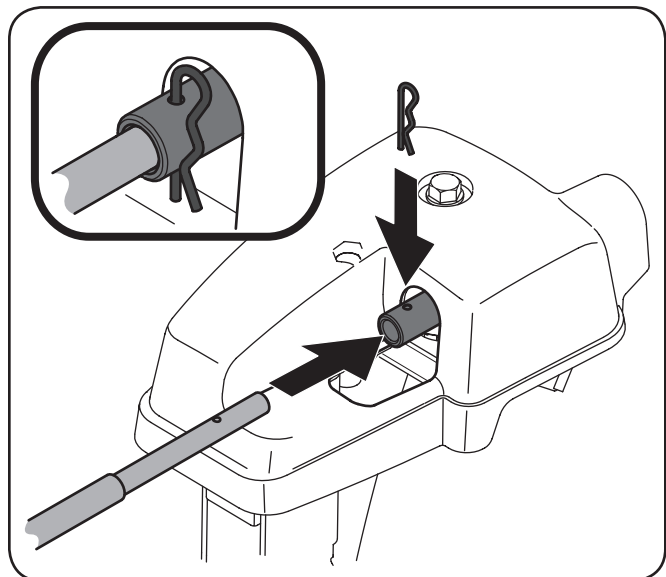

Figure 3-7
5. Insert flex shaft removed earlier from the lower handle into rear of the chute directional control head. Secure the flex shaft to the chute control head with the hairpin clip removed earlier. See Figure 3-7.